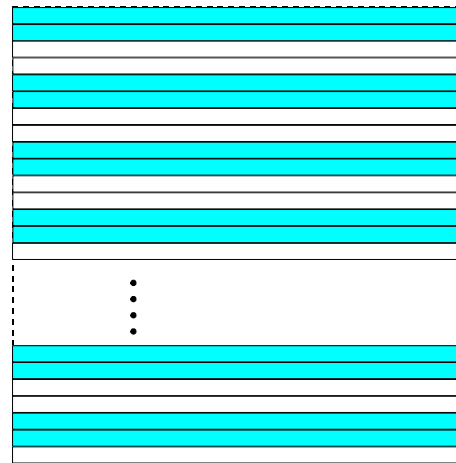

Fig. 98: Decimation of 2 (Color Cameras)
- 2 for color cameras: only every second pair of rows of the acquired frame will be transmitted out of the camera (Figure 98).